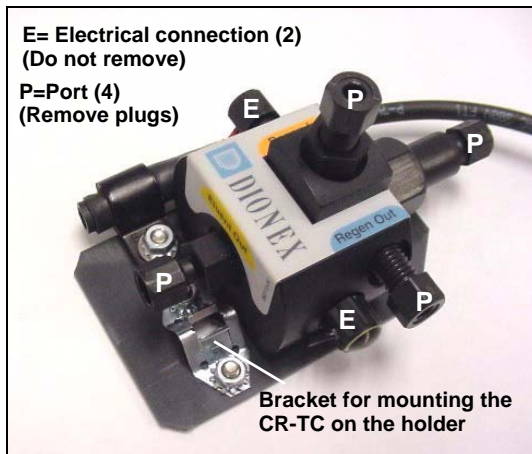

Figure 39. CR-TC
2. Before installing the CR-TC, note the metal ball stud inside the bottom of the cartridge holder (see Figure 38) and the bracket on the CR-TC mounting plate (see Figure 39). These are used to mount the CR-TC inside the holder after it is plumbed.
3. Remove the plugs from the four ports, labeled “P” in Figure 39. **Do not remove the two electrical connections, labeled “E” in the figure.**